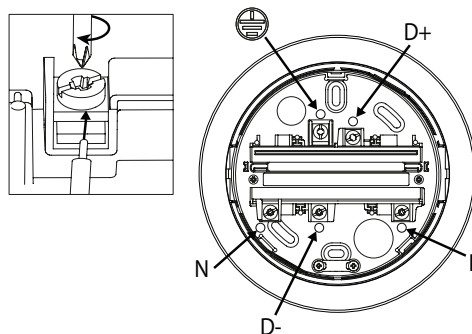

Figure 4
4. Wire the Power and Data to the Terminal on the Monopoint Ceiling Adapter per **Figure 4**